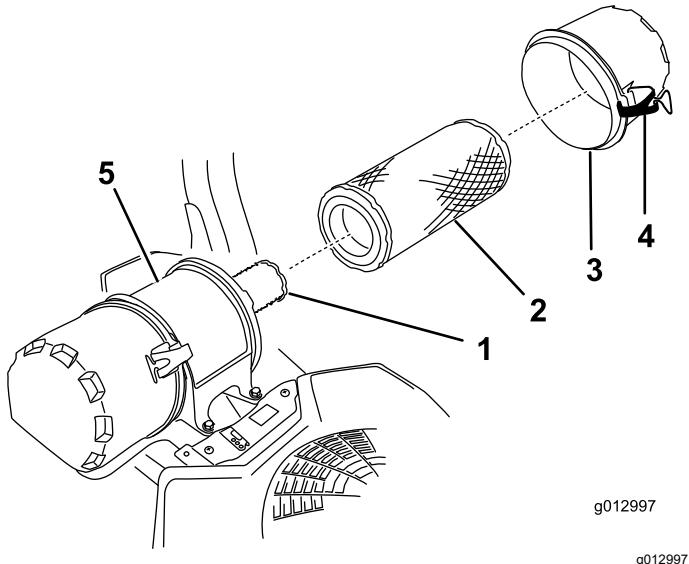

Figure 42
6. Release the latches on the air cleaner and pull the air-cleaner cover off the air-cleaner body (Figure 42).
8. Gently slide the primary filter out of the air-cleaner body (Figure 42).
2. If you are replacing the inner filter, carefully slide it into the filter body (Figure 42).
3. Carefully slide the primary filter over the safety filter (Figure 42).
4. Install the air-cleaner cover and secure the latches (Figure 42).